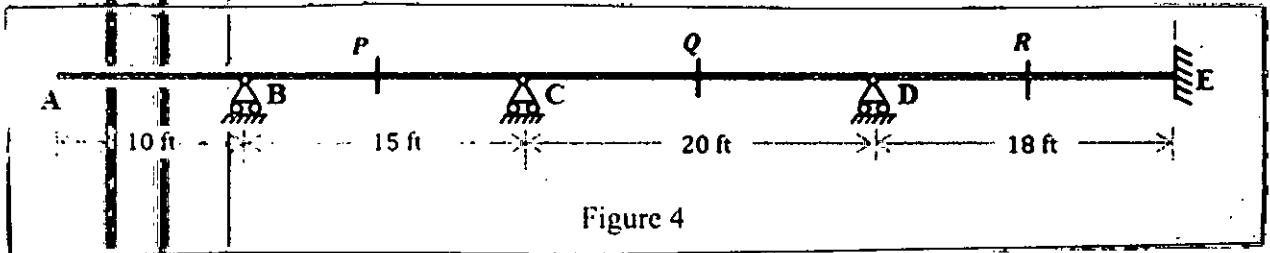

Figure 4
4. (i) Draw qualitative Influence lines for R_B , R_C , R_D , R_E , $V_{C(Left)}$, $V_{C(Right)}$, V_Q , M_P , M_R and M_C of the the continuous beam shown in Figure 4. Here, P, Q and R are the middle pints of span BC, CD and DE respectively. Symbol R, V and M present reaction, shear and moment at different points.